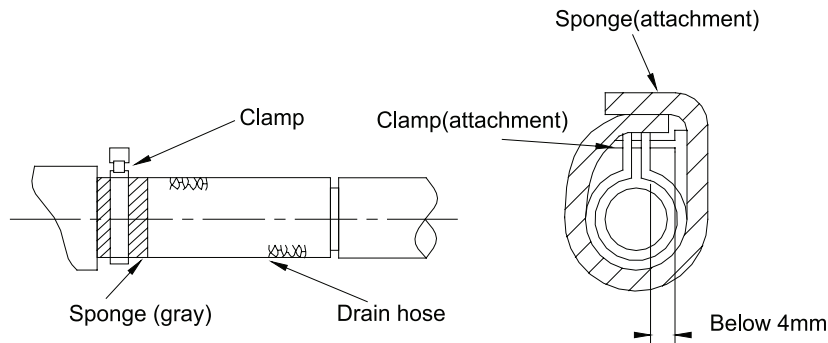

Figure 1-3-8
- To prevent bent of the drain hose, the distance between hoisting stand should is 1 to 1.5m. (As shown in Figure 1-3-8)